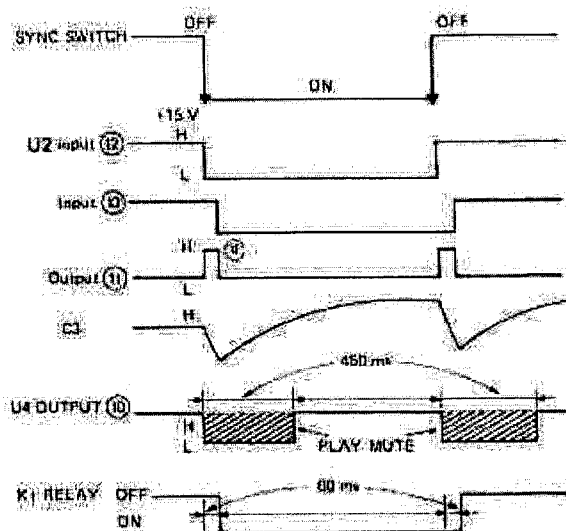

Fig. 8-8-1. Sync On/Off Mute Timing Chart
a) When the SYNC switch is operated, levels at each input pin of the EX-OR gate U2 (11, 12, 13) become as shown in Fig. 8-8-1. Pulse (a) appears at output pin 11 of U2 (11, 12, 13) for a period equal to the time constant of C1-R18. This pulse causes C3 installed ahead of pin 9 of U2 (8, 9, 10) to store and release the charge through R24 as the SYNC switches on and off.